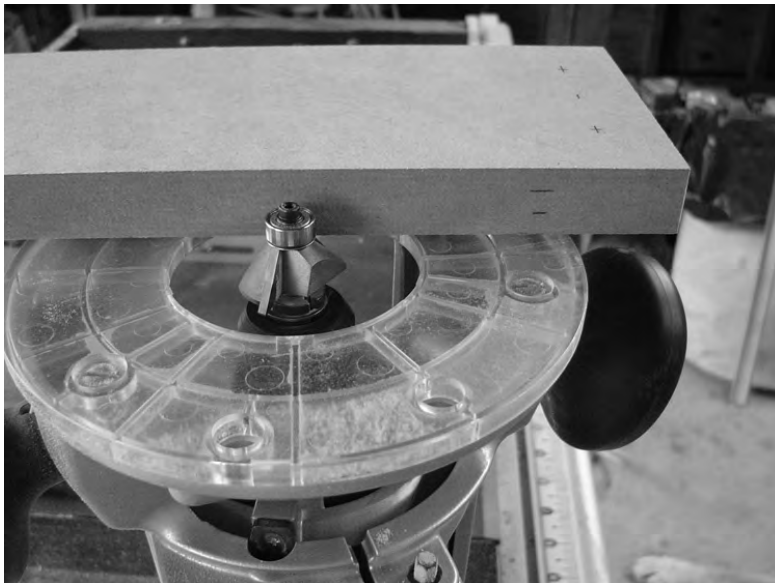
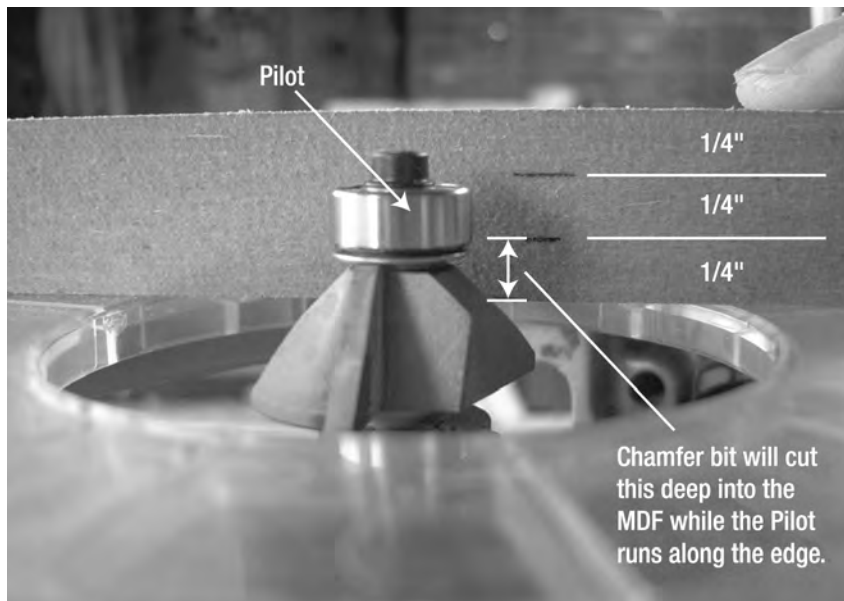

Figure 14-3. A chamfer bit is required for the edges of Part F.
Figure 14-5. Set the chamfer bit to cut away only 1/4" of an edge.
The long sides of Part F need to be chamfered. Figure 14-3 shows a standard-sized router with the chamfer bit installed. Make note of the two small pencil lines on the edge of Part F (also shown in Figure 14-3).
■ **TIP** One other item we'd like to draw your attention to is shown in Figure 14-3. Notice the two small cross marks on the flat surface of Part F? Those are where we'll be drilling two holes in Chapter 15. There are two other cross marks on the other end of Part F that you can't see. Consult the plans for Part F and you'll find measurements for drilling these four holes. It will be easier for you to draw these marks before you chamfer the edges.
You'll run your router with a chamfer bit down the long edges of Part F on top and bottom. You want to leave 1/4" of flat surface, so make pencil marks (like the ones shown in Figure 14-3) and set your chamfer bit to cut away enough MDF material to leave a 1/4" surface, as shown in Figure 14-5. Because the MDF is 3/4" thick, you'll simply make two marks and divide the edge into three parts of 1/4" each.